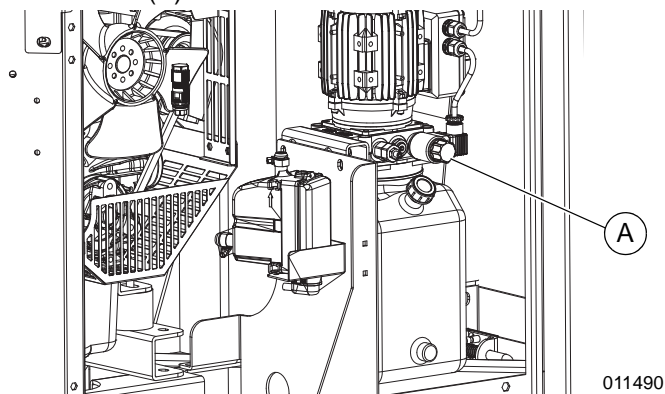

Figure 3-10. Hydraulic Release Valve
1. See Figure 3-10. Slowly turn hydraulic release valve (A) counterclockwise.